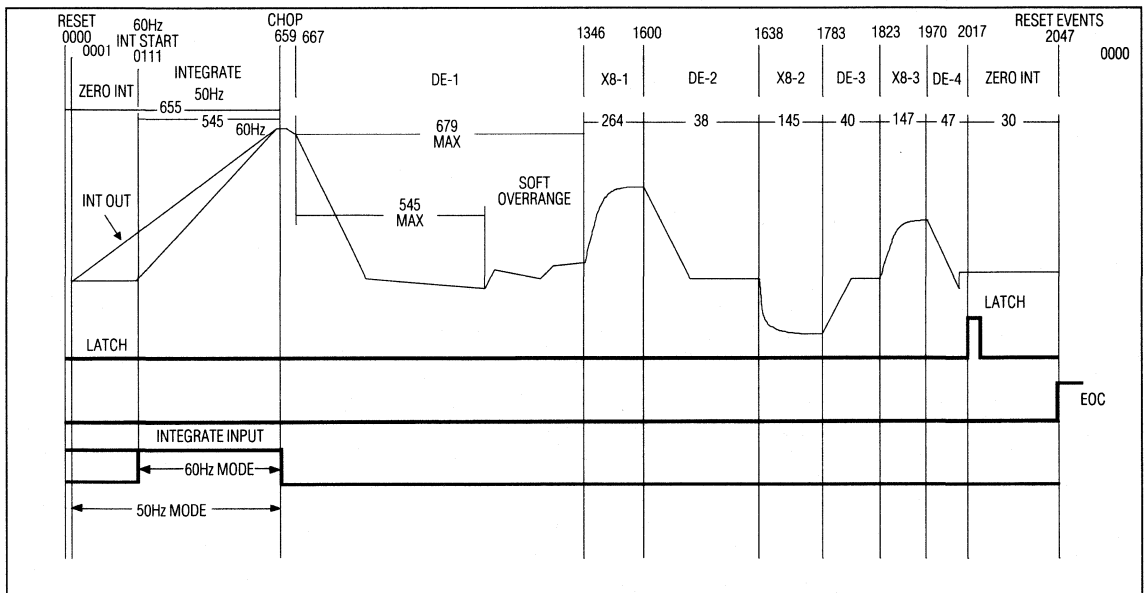

Figure 9. Conversion Timing (Negative Input Shown)
2. Poll either the EOC status register bit or the EOC line to determine conversion end and start time for the next conversion. EOC becomes 1 at conversion end at count 0000 of the conversion counter (Figure 9).
The MAX132 has two overrange levels (Figure 9). The first level is a soft overrange that is set by the user. Overage is arbitrarily set at a value, preferably less than the 279,040 (including any zero offset) raw counts soft limit. A nonlinearity step of about 64 counts occurs at raw count 279,040 and again at 330,240 counts.
The zero-integrate phase zeros out the integrator to prepare for the next integration (Figure 9). This phase occurs at the beginning and end of each conversion. At power-up, or in the hold mode prior to a conversion, the MAX132 continues to zero integrate until a conversion starts. When a conversion starts in 60Hz mode, another 111 clocks of zero integrate are completed before the beginning of a conversion. In 50Hz mode, only one additional zero integrate is performed before the conversion starts. An additional 20 clocks of zero integrate occur at each conversion end.